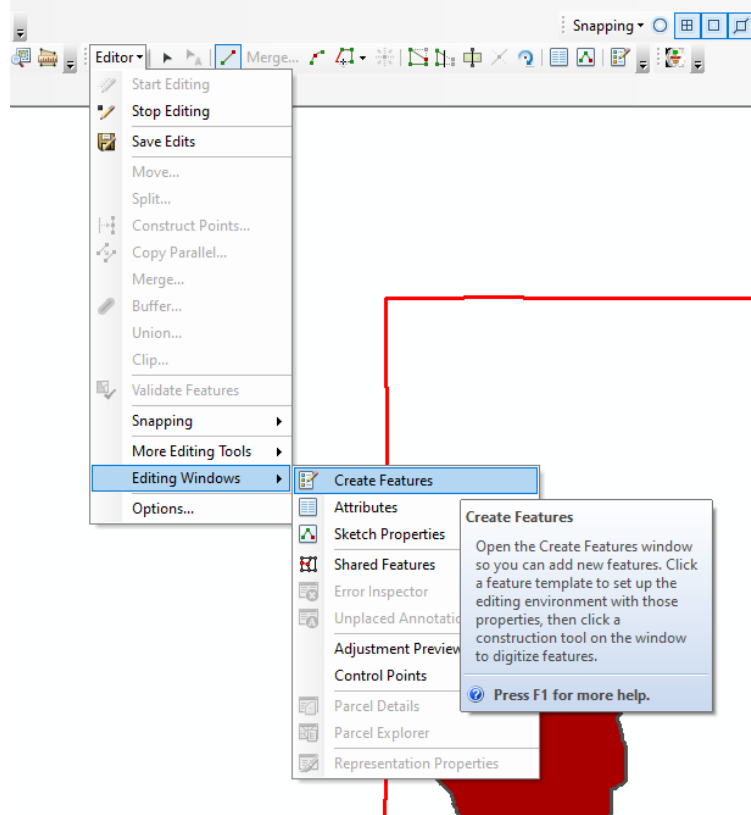

Figure 28. Open Editing Window
- Open the Editing Window. If you do not have an Editing Window open by default, select Editor on the Editor Toolbar to open a drop-down menu. Select Editing Windows and then Create Features (Figure 28).